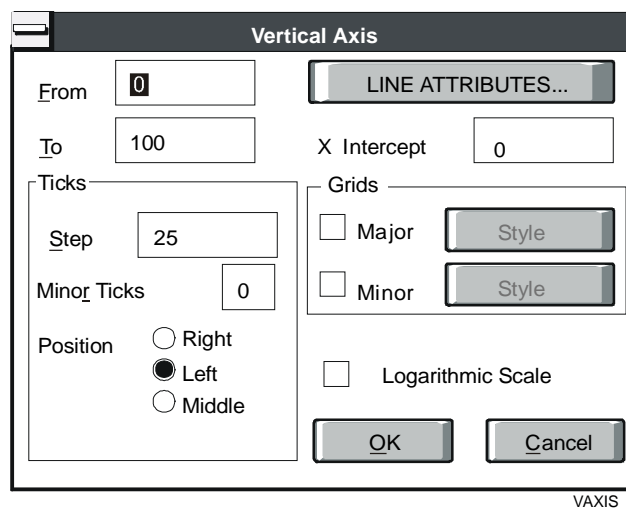
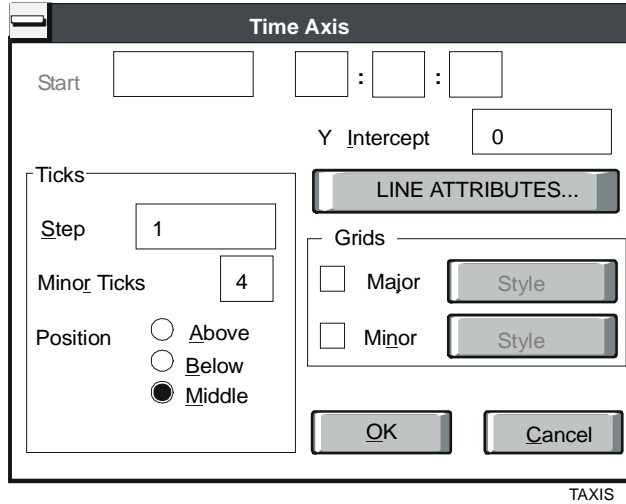

Figure 13-11: Vertical Axis Dialog Box
Figure 13-12: Time Axis Window
Changing Graph Attributes	Modify the X- or Y-axis attributes by double-clicking on the axis line (not the numeric labels). This displays Figure 13-11 for the Y-axis or Figure 13-12 for the X-axis. The range of the Y-axis may be changed, but the range of the X-axis is fixed at 900 seconds (15 minutes). See Modifying the Vertical Axis and Modifying the Time Axis in this chapter. Note: The modifications to the attributes of an axis are not retained, they are only in effect for this graphing session.
1. In the graphing screen, double-click on the vertical axis. The Vertical Axis dialog box appears (Figure 13-11).
1. In the graphing screen, double-click on the time (horizontal) axis. The Time Axis dialog box appears (Figure 13-12).